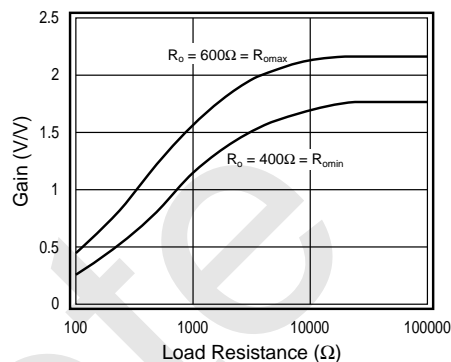

Figure 5: Gain vs. Resistive Load
Load: The CLC503 is intended to drive high speed CMOS analog-to-digital converters, such as the CLC949. Resistive loading will affect the gain and common mode offset. It is not recommended to drive resistive loads below 10k Ω with this part. See Figure 5 for gain vs. load with specified range in device output resistance.
- Input impedance of the A/D. Refer to Figure 5 for the Gain vs. Resistive Load. The CLC503 operates best when driving resistive loads greater than 10kΩ and capacitive loads of less than 10pF.
where R_L equals the input resistance of the A/D. The impact of lower values of R_L is shown in Figure 5. The tolerance on the 500Ω is ±20%.